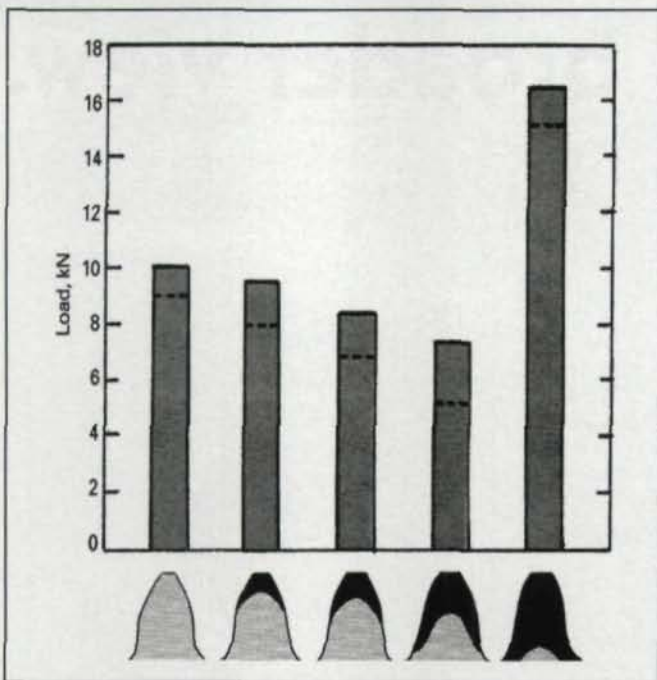

Fig. 12—Effect of the amount of flank hardening on the bending⁽⁴⁾ fatigue strength of gear teeth. Steel 0.55% C, core strength 880 N/mm².
4) Bending fatigue. It is crucial that the entire surface of the tooth root/fillet region is hardened. A missed area in that region, either along the fillet or at the tooth end, will lower the bending fatigue strength some 25%, compared with the tooth's strength before induction hardening (Ref. 3). Baumgartl (Ref. 4) confirmed the 25% loss (Fig. 12). With adequate root/fillet hardening, the fatigue strength will be 60% to 70% of that of a carburized gear (Ref. 3) when the surface hardness and the case depth are within reasonable limits, i.e. 590 Hv to 650 Hv, and minimum fillet case depth/module ratio is 0.25 to 0.30.